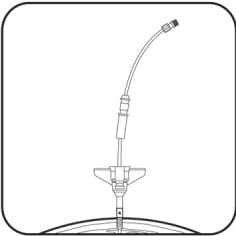

Figure 7: Pull up on Support Handle and slide into position on tube.
- ⇒ Slide the Support Handle back on the Catheter by pulling it up and into position on the tubing (Fig. 7).